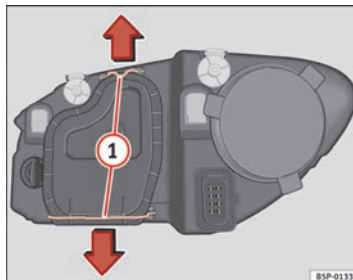

Fig. 180 Dipped beam headlights
- Remove the loops ⇒ fig. 180 **1** in the direction of the arrow and remove the cover. ▶